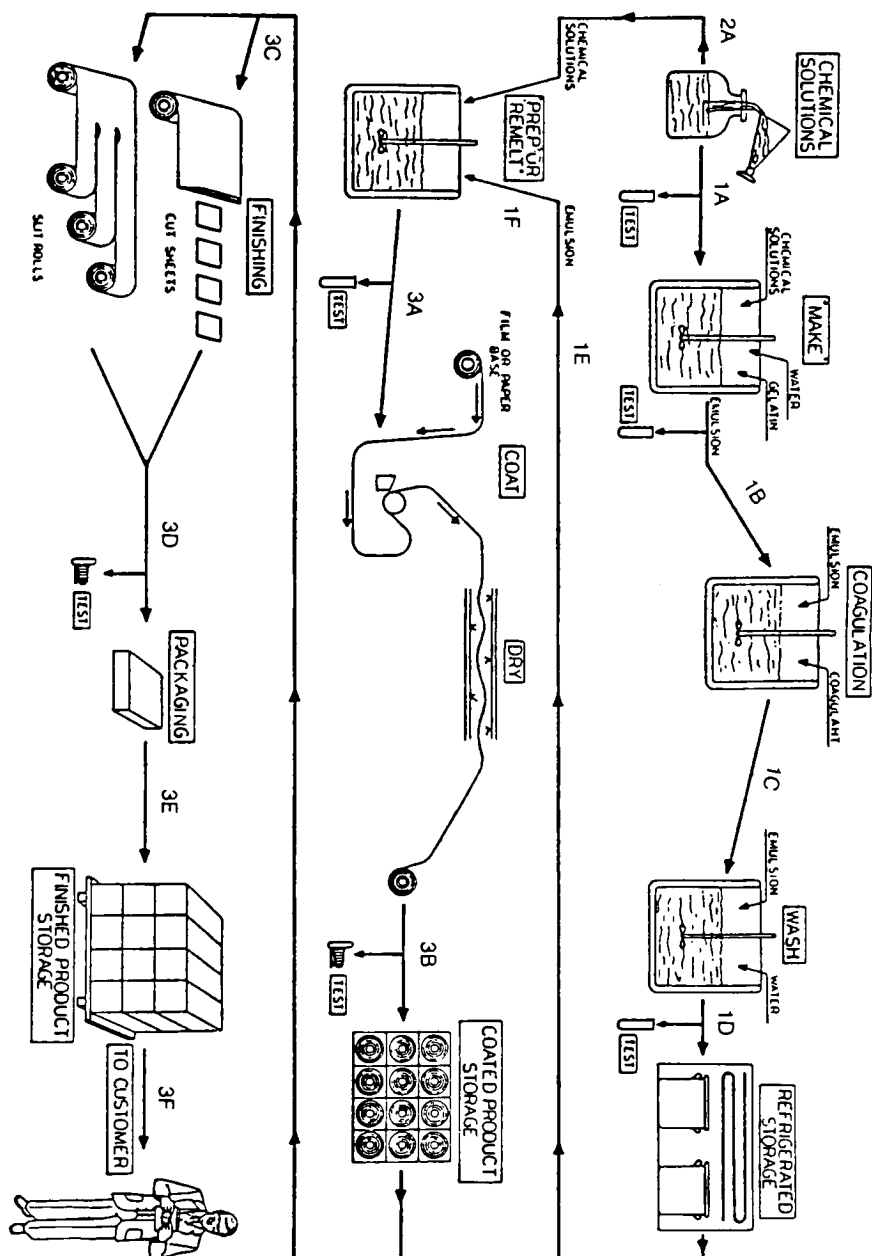

Figure III.2. PRODUCT'S LIFE CYCLE
- * The PSP has to understand the significant parts of the product's life. Process flowcharting creates a visual picture of the product's life. See Figure III.2. for an illustration of the major steps in a product's life cycle.